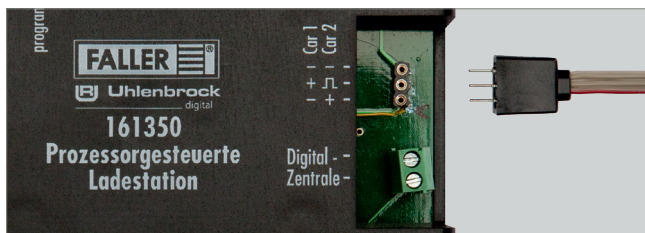

Fig. 3: Connecting the charging cable to the charging unit
- ▶ Insert the plug located at one end of the charging cable into the socket of the charging unit, see Fig. 3.